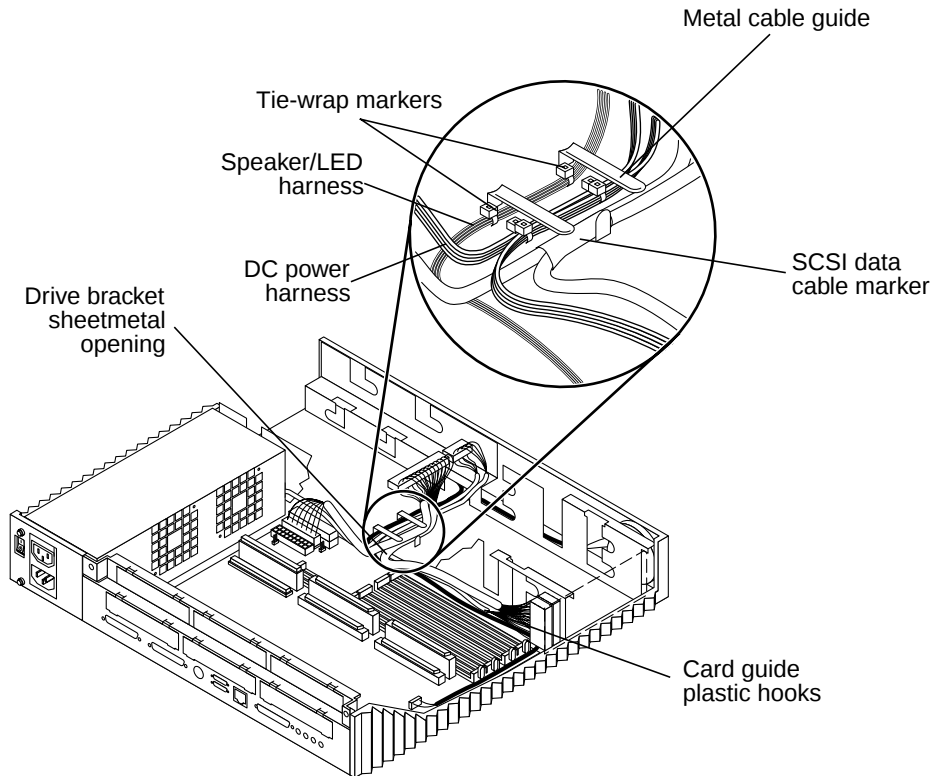

FIGURE 8-32 Cable Guide Detail
1. Route the SCSI data cable as follows (FIGURE 8-32):